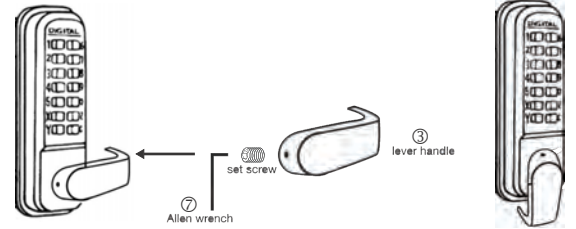

Fig. 6
Step 6: Verify Correct Spindle Length (Fig. 6)